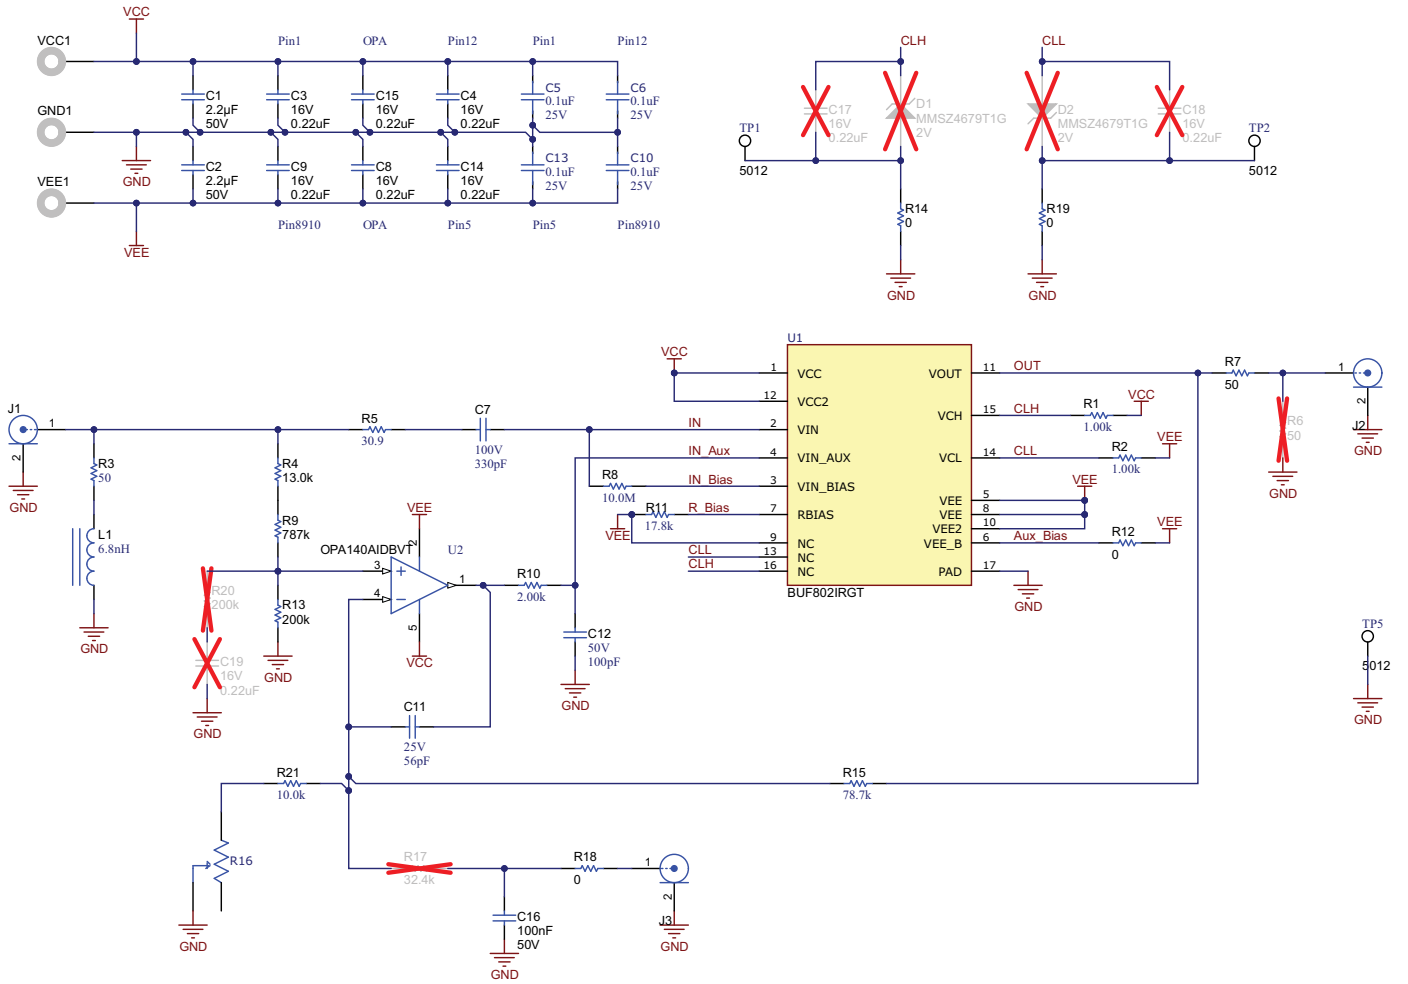

Figure 11-1. Layout Example: Schematic for Layout Reference
- **Peaking in the S21 transfer function:** keeping the trace length minimum is of prime importance to ensure no peaking occurs in the S21 transfer function of the BUF802. The trace inductance can form a resonant circuit with the input capacitance of the BUF802, causing peaking in the S21 response. Add a small resistor (R5 in Figure 11-1) in series with the DC blocking capacitor to dampen the LC resonance created by the trace inductance and the input capacitance of the BUF802. Choose series capacitors (C7 in Figure 11-1) with low equivalent series inductance (ESL) to minimize total inductance.
- **Power-supply bypass capacitors:** mount the power-supply bypass capacitors as close to the supply pins as possible and on the same side of the PCB as the BUF802. As shown in Figure 11-1, choose low-inductance LICC capacitors (C5, C6, C13, and C10) to minimize high frequency impedance between the BUF802 and the bypass capacitors. Use multiple vias between the bypass capacitor and GND to reduce series inductance. As shown in Figure 11-1, also use multiple vias to GND on the 50Ω input termination resistor (R3). Connect the bypass and termination vias to a solid GND plane.